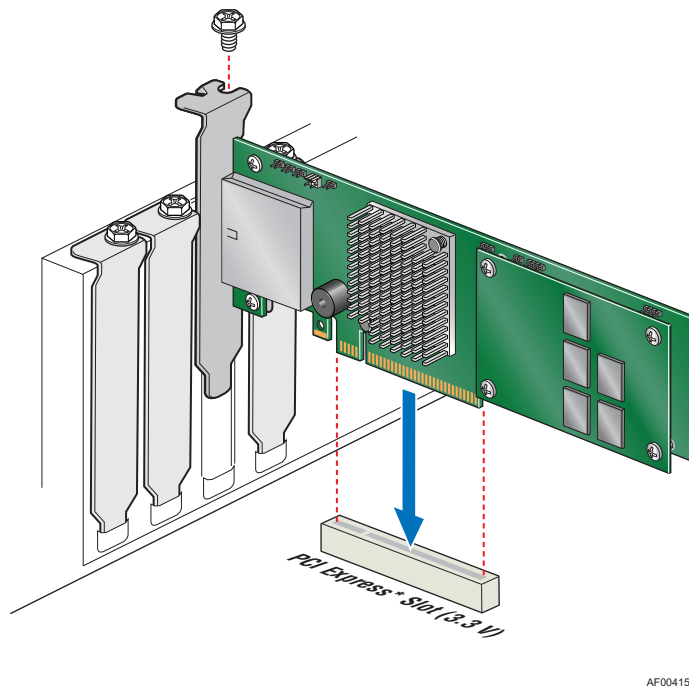

Figure 2. Installing the Intel® RAID Controller RS25NB008
4. Install the RAID controller into an available server system x8 or x16 PCI-Express* slot (see Figure 2). To locate an appropriate slot and for instructions on installing an add-in card, see your server system documentation.